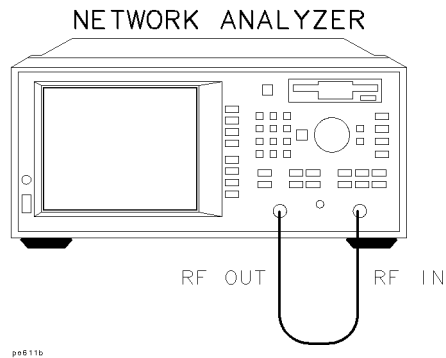

Figure 1-1. Equipment Setup for Transmission Measurement
1. Connect the equipment as shown in Figure 1-1. Use a known good cable such as the one that was supplied with your analyzer.